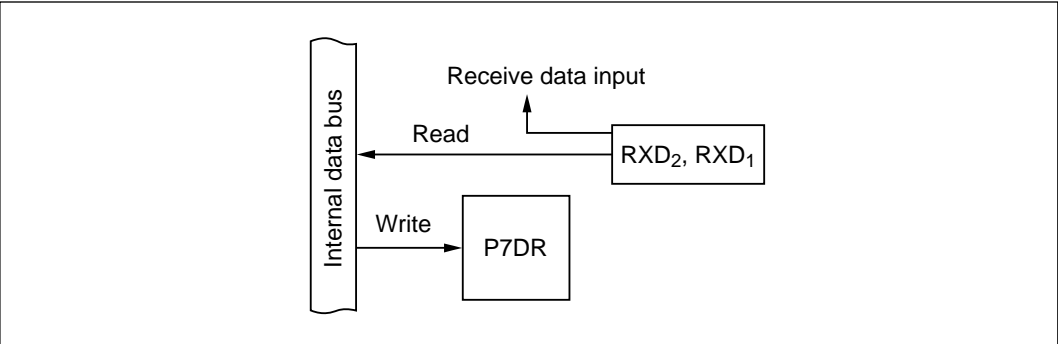

Figure 10-50 RXD₂ and RXD₁ Input (Modes 1 to 7)
(6) RXD₂ and RXD₁ Input (P7₅ and P7₃: Modes 1 to 7): Figure 10-50 shows a block diagram illustrating the RXD₂ and RXD₁ input function. Table 10-41 indicates register read/write data. When P7₅ and P7₃ are used for RXD₂ and RXD₁ input, the value written in P7DR is ignored, but P7DR can be read to monitor the levels at the RXD₂ and RXD₁ pins (to detect the line break state, for example).